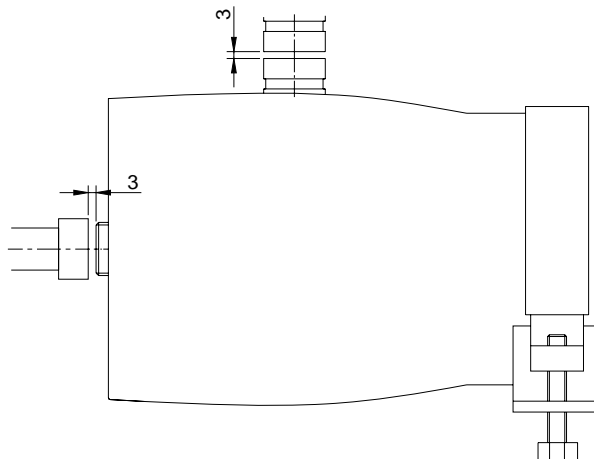

Figure 4
4. Connect the vessel to piping manifolds while adjusting the position of the shell and piping manifolds. Try to align the feed port and concentrate port. The distance between the vessel and piping manifolds should be set as 3 mm (Figure 4). Try to align in all directions. The Victaulic coupling should be able to be tightened without applying any adhesive on it. Lock the vessel and piping manifolds in place only after all alignment procedures are finished.